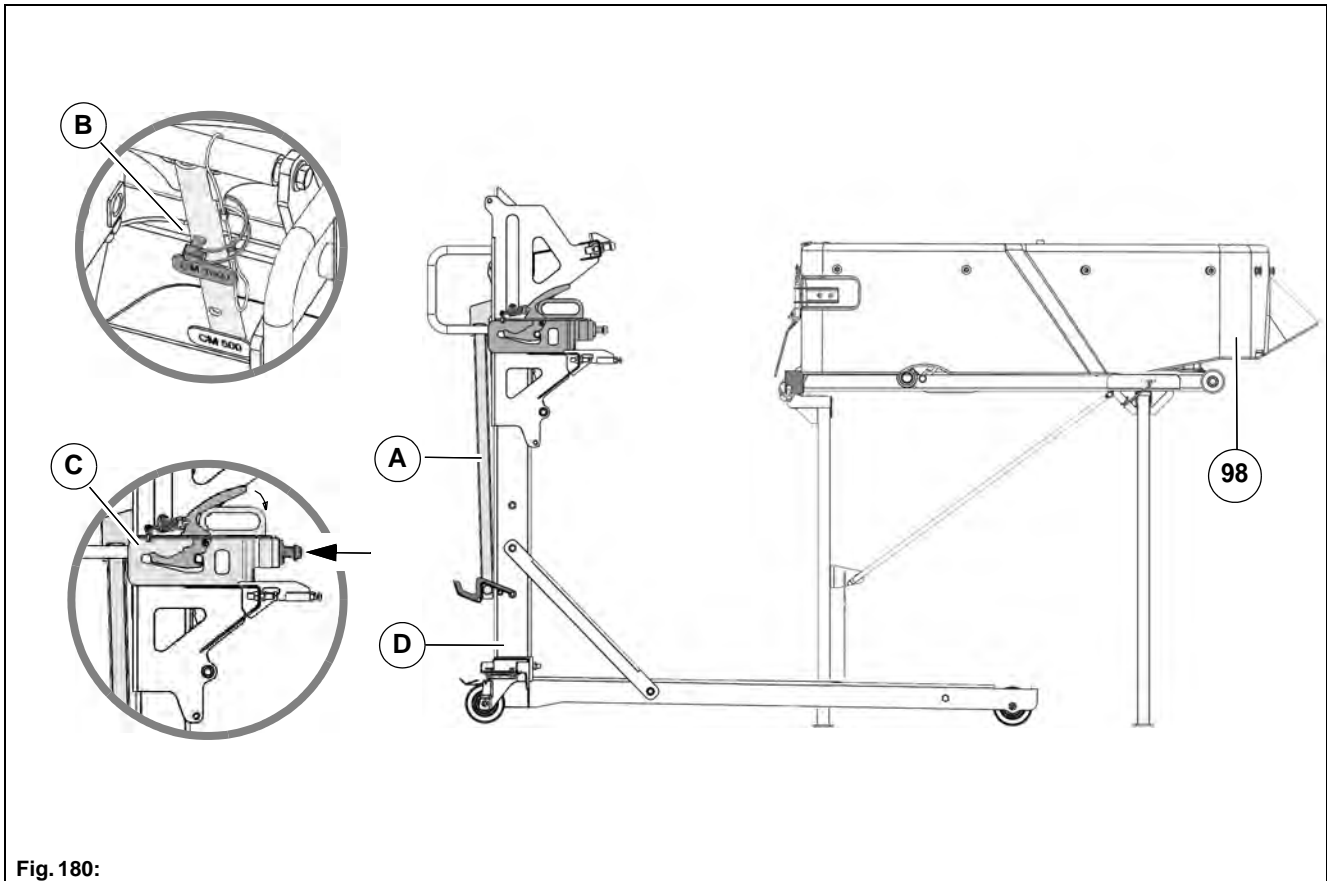

Fig. 180:
2. Unlock the lever **Fig. 180-A** of the trolley **Fig. 180-D** (optional) and swing it into the upper position.
3. Hold the lever **Fig. 180-A** in the upper position with one hand and with the other hand fit the mounting bolt **Fig. 180-B** on the Citymaster 1600.
Risk of injury! The lever **Fig. 180-A** can swing over.
4. Unlock the sledge **Fig. 180-C** with the lever and push it into the rear position.